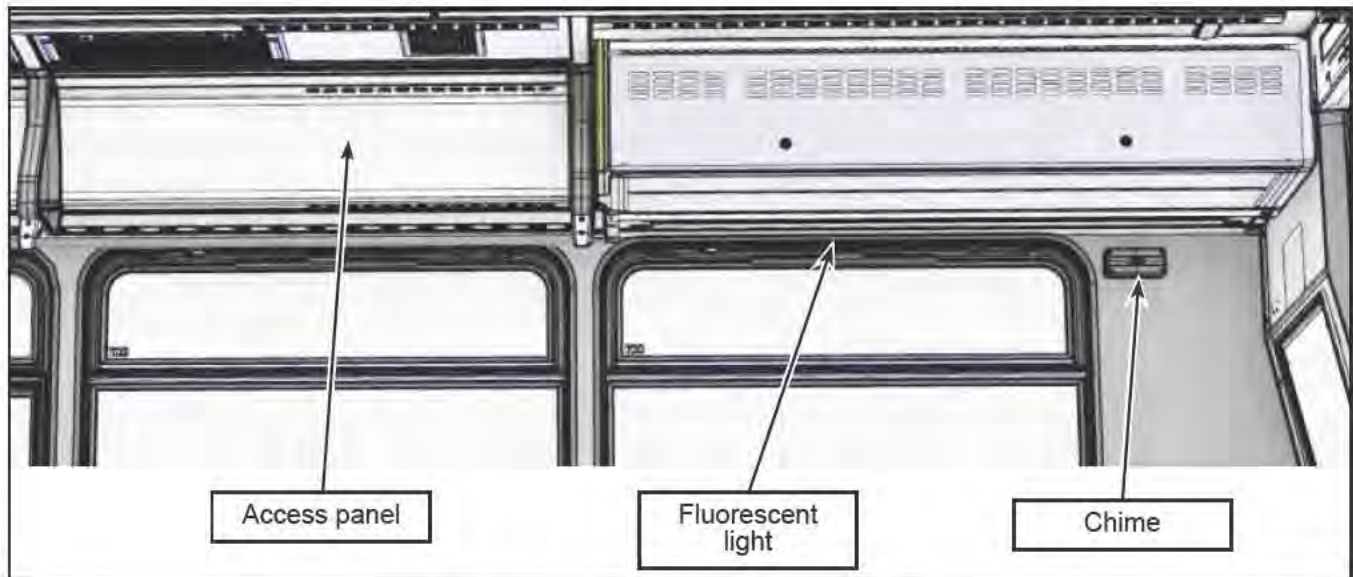

Figure 3 - Components to Remove (Typical)
- 1.9. Next to the ceiling, to access the hydraulic pipe N77549-01 (Figure 3), remove:
- 1.10. Remove the chime (Figure 3).